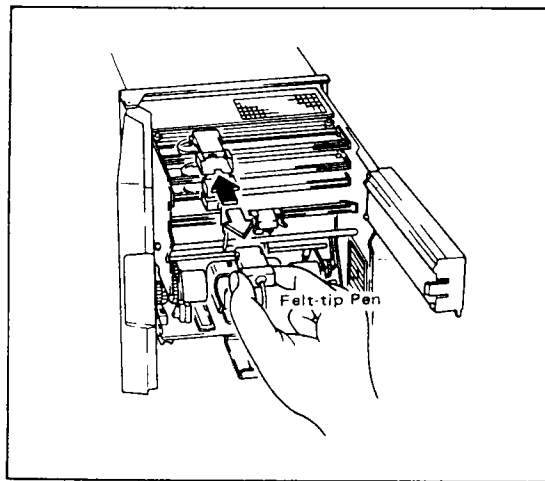

Figure 5-11.
- (4) Grasp the protruding part of the felt-tip pen cartridge and gently pull/slide it out of the cartridge holder. (See Figure 5-11.)
- (5) Insert a new felt-tip pen cartridge in the pen cartridge holder. (See Figure 5-11.)